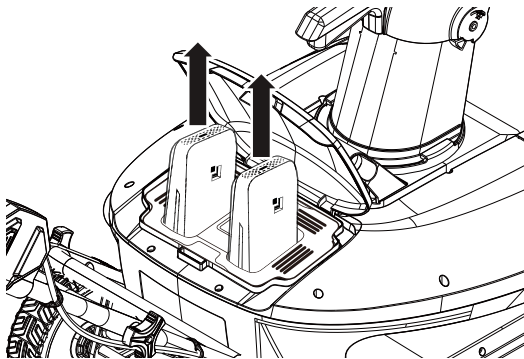

Fig. 17
2. Depress the battery pack release button, then pull the 2 battery packs one by one out from the battery compartment. (Fig. 17)